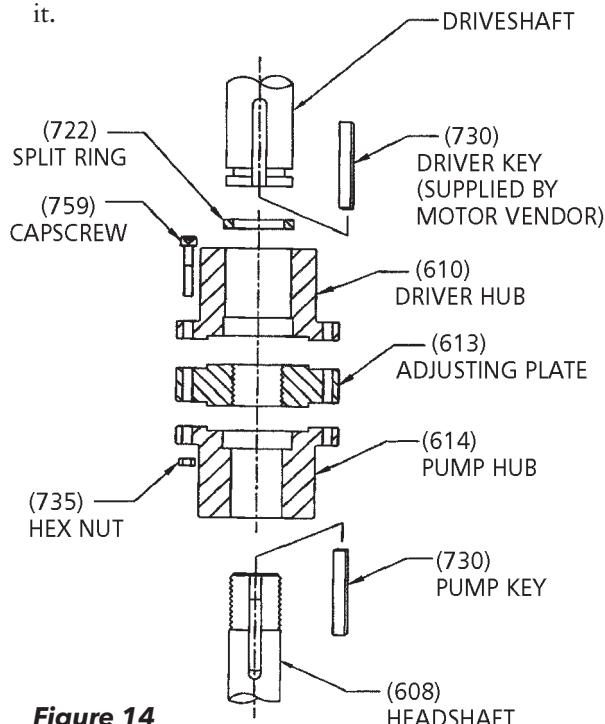
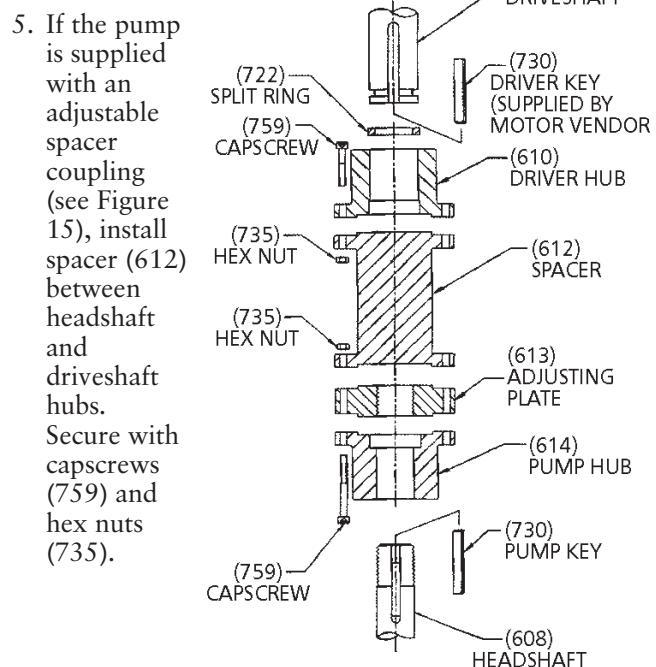

Figure 14
Figure 15
The coupling between the driveshaft and discharge head shaft may be a non-spacer type (see Figure 14), or a spacer type (see Figure 15). The latter is used on pumps furnished with a mechanical seal to permit servicing of the seal without removal of the driver.
COUPLING INSTALLATION: (SEE FIGURES 14 and 15)
- After impeller adjustment, align adjusting plate (613) with the pump hub (614), and tightly draw coupling flanges together with capscrews (759) and nuts (735). (See Figures 14 and 15.)